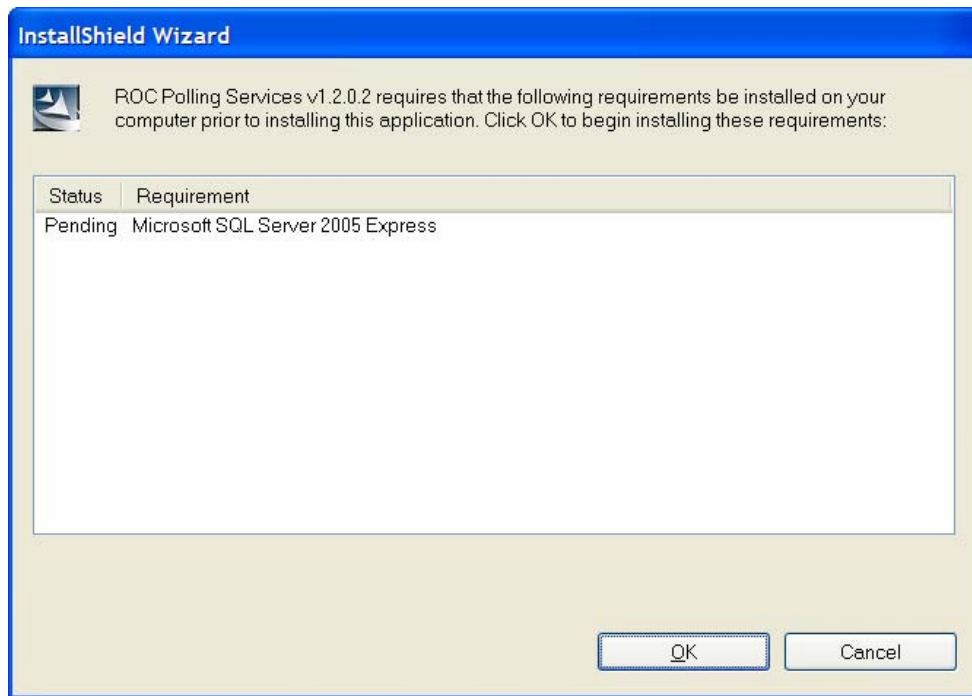

Figure 2-1. Microsoft SQL Server 2005 Express
1. Place the installation CD in your PC's CD tray. The installation program should start automatically, and display the first InstallShield Wizard screen (*Figure 2-1*).
6. The Microsoft SQL InstallShield Wizard displays (see Figure 2-1). Click **OK**. The wizard installs and configures the Microsoft SQL Desktop Engine. When completed, it displays the InstallShield Wizard screen for the ROC Polling Services.